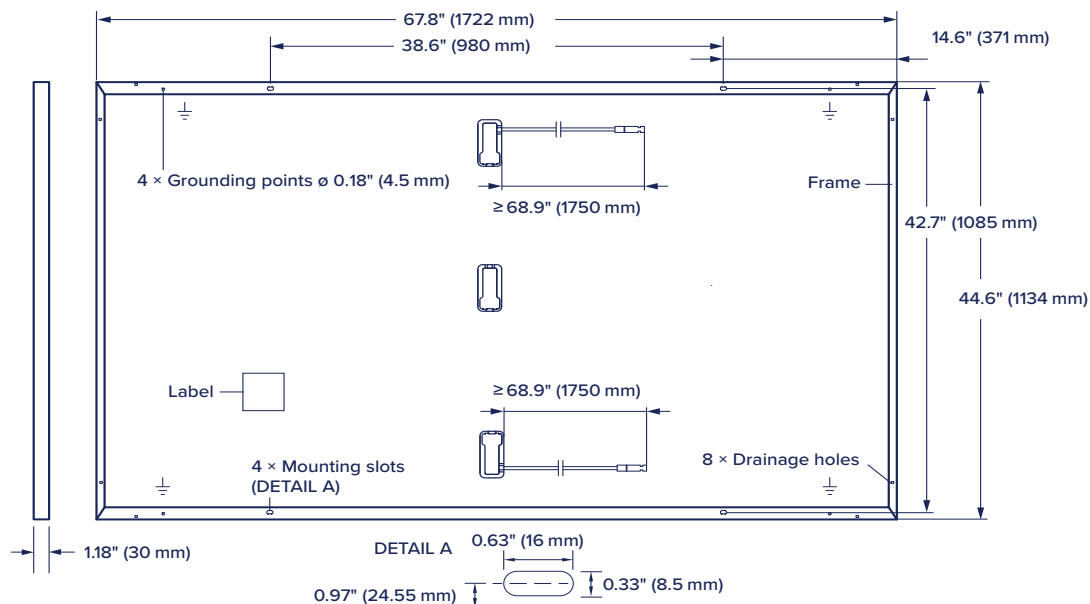

Fig. 1: External dimensions and components for Q.TRON M-G2+, Q.TRON BLK M-G2+, Q.TRON BLK M-G2.H+
- Clamp position: center of contact area in the axis of the mounting slots (Detail A, Fig.1) or closer to the hollow chamber.